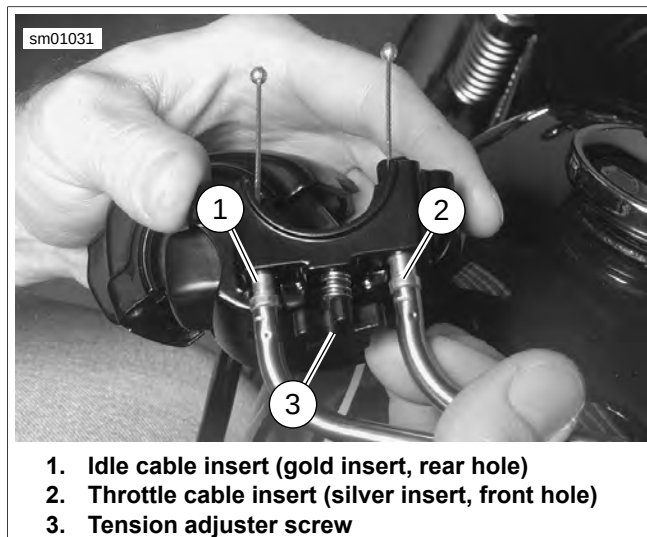

Figure 7-51. Right Lower Switch Housing
7. See Figure 7-51. Push the throttle and idle control cables into the lower switch housing until they snap in place. Note the different diameter inserts crimped into the end of the throttle and idle cable housings.
- a. Push the silver insert of throttle cable housing into the hole in front of tension adjuster screw (3).
- b. Push the gold insert (1) of idle cable housing into the hole at the rear of tension adjuster screw.